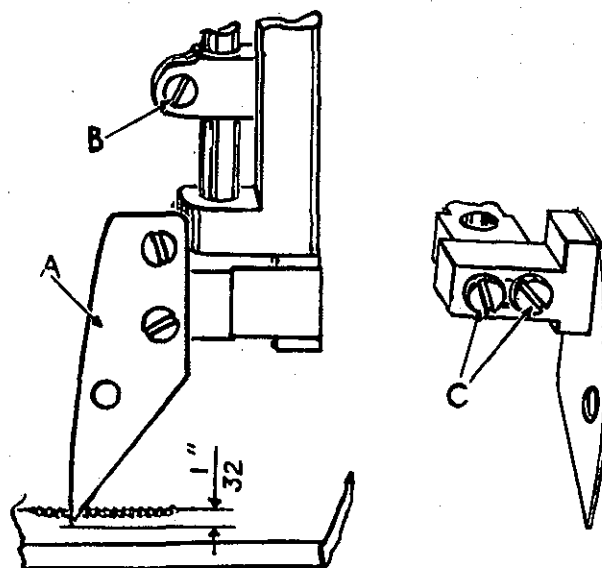

Fig. 16
The bag trimming knife (A, Fig. 16) should be set centrally in the knife slots in the presser foot and throat plate. It should also be set so that when at its highest position, the point of the knife is  $1/32$  inch below the surface of the throat plate. In order to set the knife for height loosen knife driving stud clamp screw "B" which allows the knife and knife holder to be moved up or down to proper position. To set the knife laterally, loosen screws (C) and locate knife in center of knife slot.